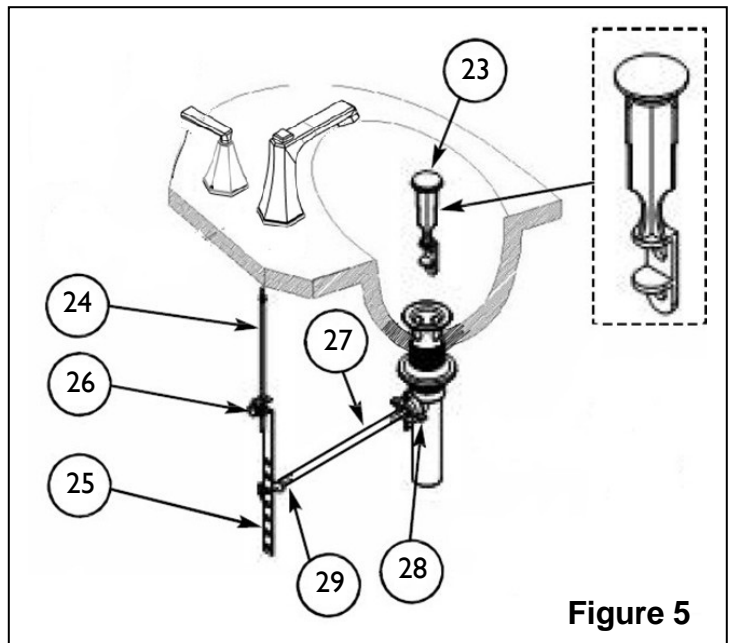

Figure 5
7. Place drain PLUG (23) in the orientation as shown in **Figure 5**, into FLANGE (17). Secure ROD (24) to STRAP (25), approximately 1" from end of ROD (24), with SCREW (26). Insert ball ROD (27) into the side opening of drain BODY (22), secure with ball rod NUT (28). Adjust the rise of the plunger and CLIP (29) into place. Adjust ball ROD (27) and pop-up ROD (24) so drain will open and close properly.